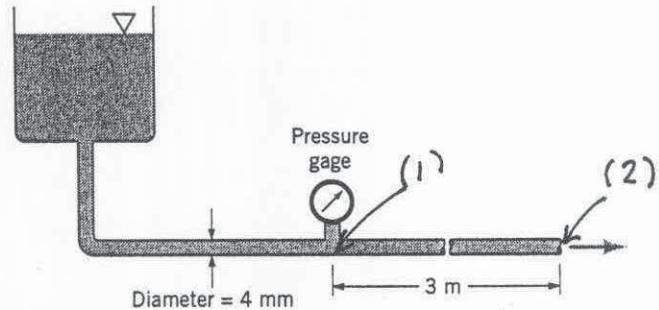

FIGURE P6.103
6.103 A simple flow system to be used for steady flow tests consists of a constant head tank connected to a length of 4-mm-diameter tubing as shown in Fig. P6.103. The liquid has a viscosity of  $0.015 \text{ N} \cdot \text{s/m}^2$ , a density of  $1200 \text{ kg/m}^3$ , and discharges into the atmosphere with a mean velocity of  $2 \text{ m/s}$ . (a) Verify that the flow will be laminar. (b) The flow is fully developed in the last 3 m of the tube. What is the pressure at the pressure gage? (c) What is the magnitude of the wall shearing stress,  $\tau_{rz}$ , in the fully developed region?